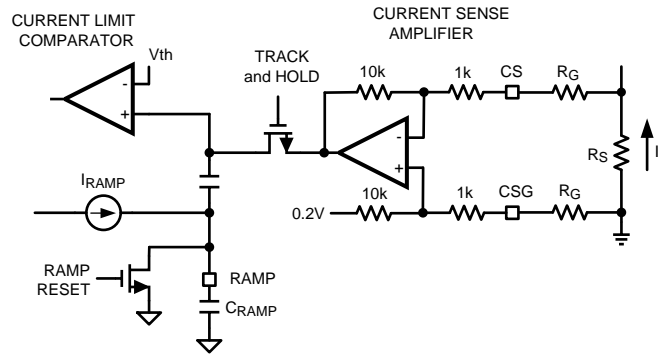

Figure 18. Current Limit and Ramp Circuit
The pedestal current sample is obtained from the current sense resistor (R_S) connected to the CS and CSG pins. It is sometimes helpful to adjust the internal current sense amplifier gain (A) to a lower value in order to obtain the higher current limit threshold. Adding a pair of external resistors R_G in a series with CS and CSG as shown in Figure 18 reduces the current sense amplifier gain A according to Equation 5.